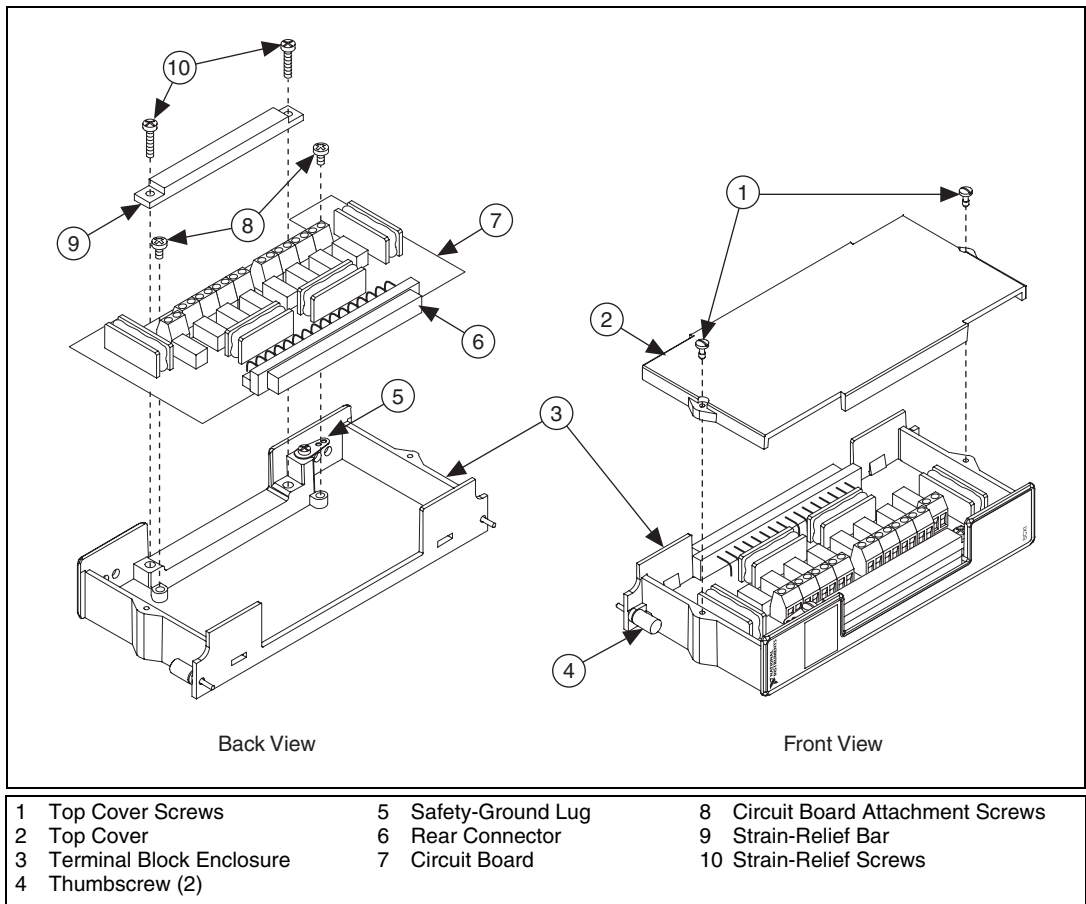

Figure 2. SCXI-1313A Parts Locator Diagram
1. Set the DMM for resistance measurement. To access the pins of the resistor networks, you must remove the circuit board from the housing. Refer to Figure 2 and complete the following steps: